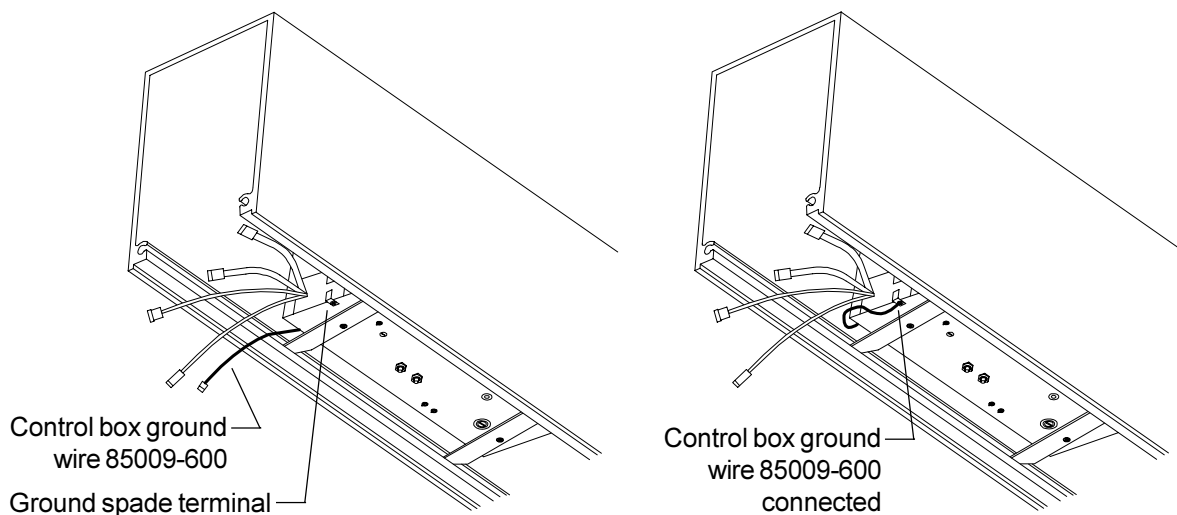

Figure 9-1
- 9.2. Connect the control box ground wire 85009-600 (already attached to the header end plate) to the spade terminal on the control box chassis (Figure 9-1).